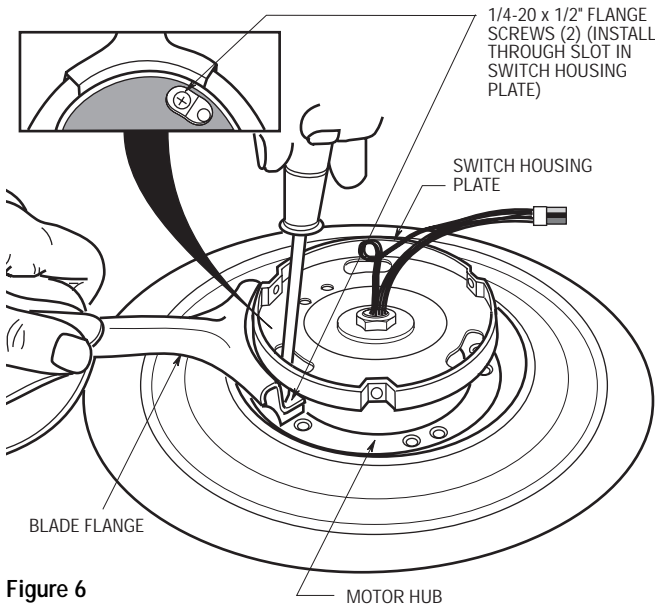

Figure 6
- 9. Rotate the motor hub until the flange screw hole is visible through the slot in the switch housing plate. Attach the blade assembly to the motor hub using two 1/4-20 x 1/2 inch Phillips oval head flange screws. Make sure the screws are tightened securely (Figure 6). Repeat this procedure for the other four blade assemblies.